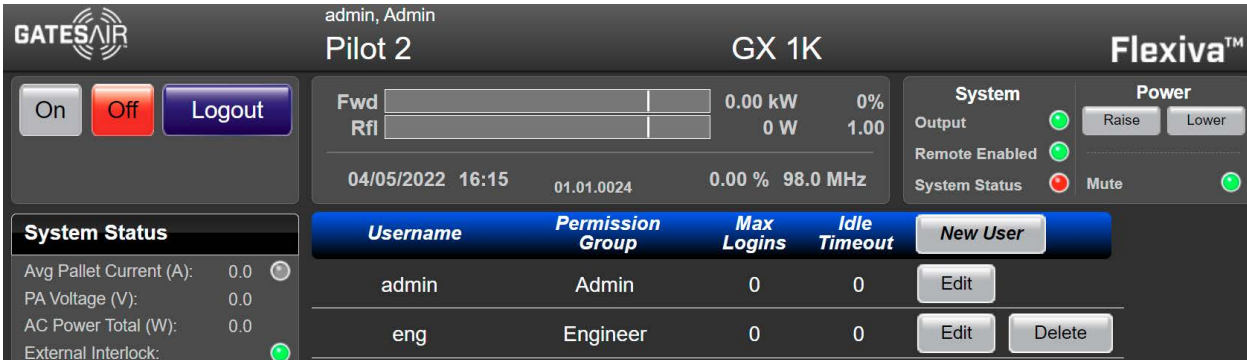

Figure 4-8 GX Admin Screen
*Enter* the username "admin" and password "admin". The Admin Screen will open as shown in Figure 4-8.
While In the Admin screen, Figure 4-8, on the previous page, click the **Edit** button of the desired username and the following GUI screen will open: